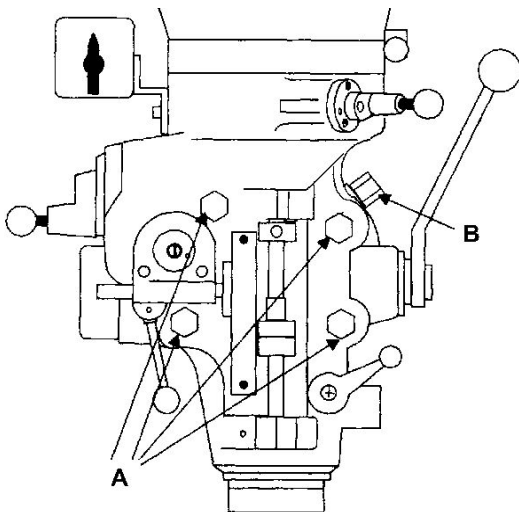

Figure 9: Mill head movement
1. Loosen four large hexagonal nuts that secure the mill head to the ram adapter (refer to Figure 9). One-quarter (1/4) turn should be sufficient to allow the head to move.
2. Turn worm nut (B, Figure 9) to tilt head left or right as required. Use the scale on the ram adapter to set desired angle.